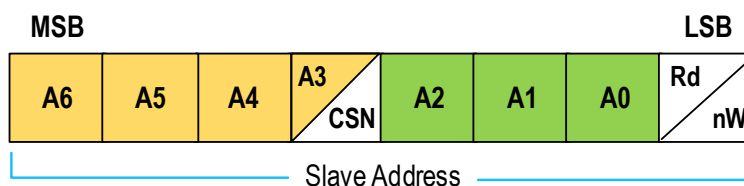
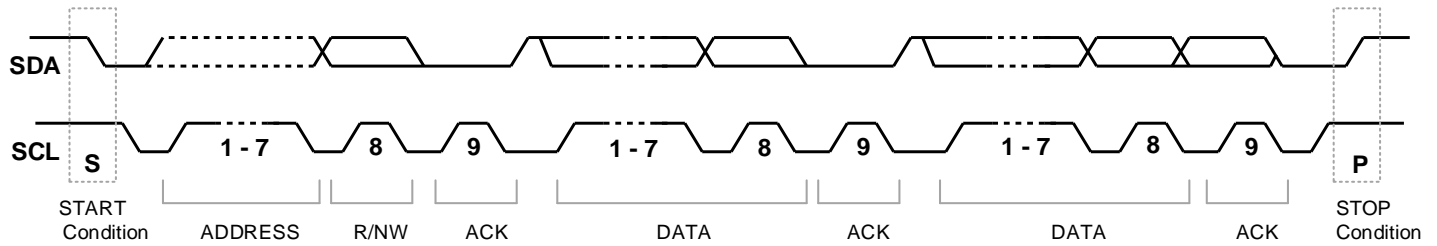

Figure 20. I2C Slave Address Byte
Figure 21. I2C Data Format
The I2C data transfer format is shown in Figure 21. After the START condition (S), a 7-bit slave address, followed by a READ (high) or WRITE (low) bit is sent by the master as shown in Figure 20.
Address bits A6 to A3 (shaded orange in Figure 20) can be individually programmed by the user, allowing up to 14 individual I2C slave addresses, ranging from 0001_{BIN} to 1110_{BIN}. Restricted addresses are 0000_{BIN} and 1111_{BIN}. Address bits A2 to A0 (shaded green in Figure 20) are reserved bits and always '0'. The programming of A6 to A3 can be done using an external programming tool.